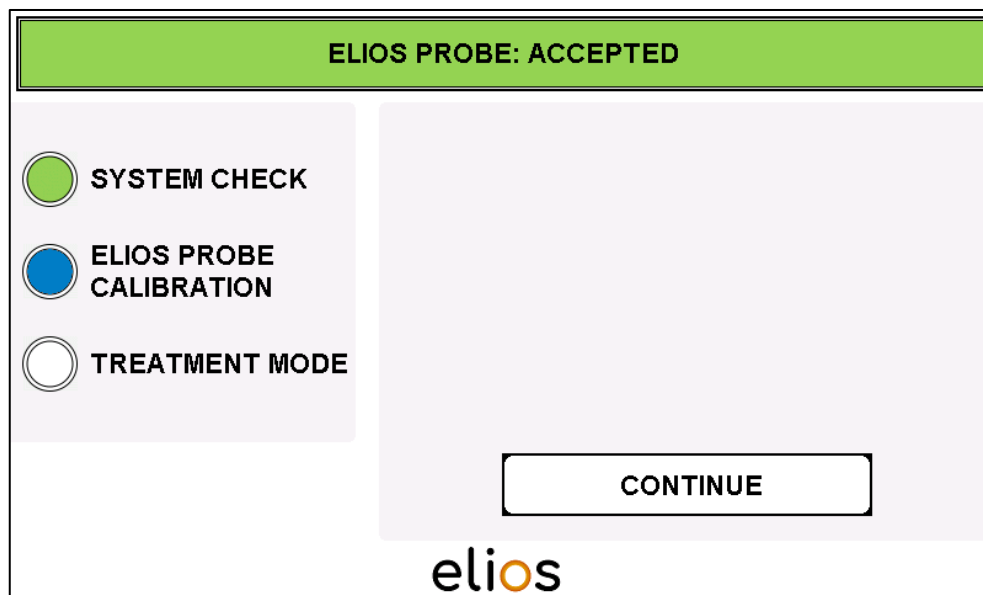

Fig. 4-7: Fiber recognition – ELIOS PROBE: ACCEPTED
- If a new sterile fiber is connected to the ELIOS laser console, the notification “**ELIOS PROBE: ACCEPTED**” is shown. The next menu item is then available by pressing “**CONTINUE**” (Fig. 4-7).